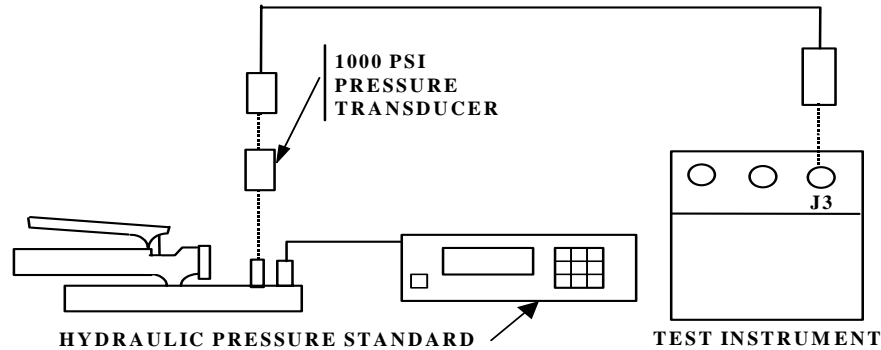

Figure 2. Pressure - equipment setup (1000 psi).
- (1) Connect equipment as shown in figure 2.